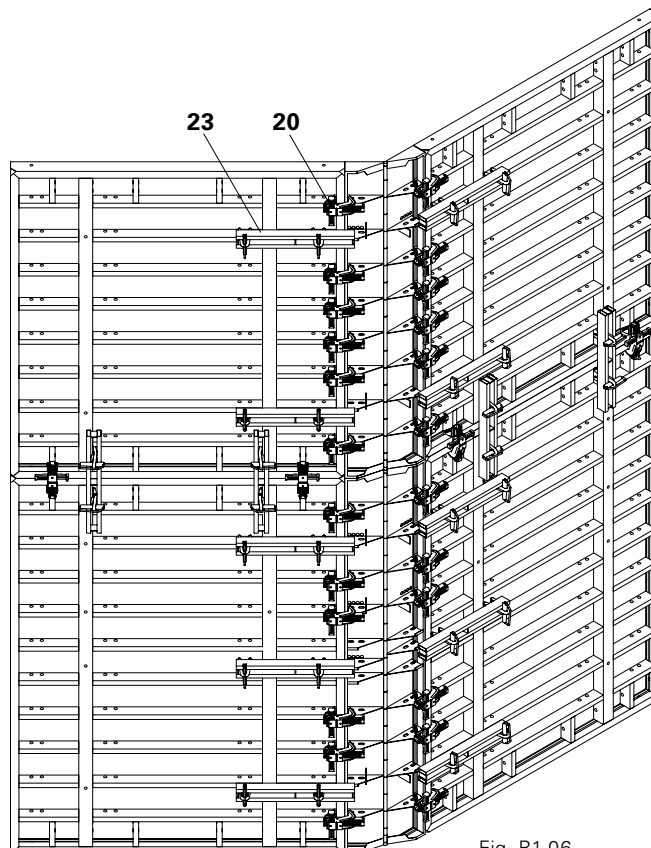

Fig. B1.06
Panel connection per side with 6 x Alignment Coupler BFD (20) and 2 x Compensation Waler TAR 85 (23). (Fig. B1.06)